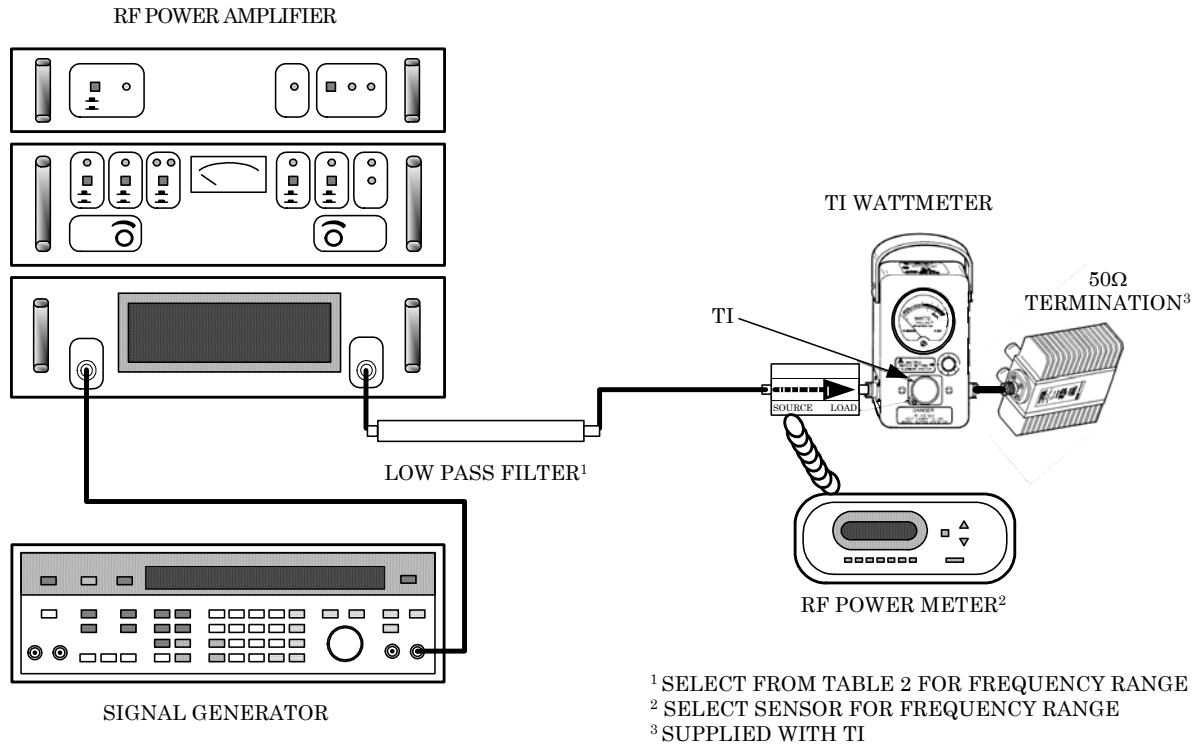

Figure 2. Plug-in element calibration - equipment setup.
- (1) Connect equipment as shown in figure 2.
- (2) Insert plug-in element into wattmeter and rotate it until the arrow points in the direction of 50  $\Omega$  termination.
- (3) Set factor switch to 1 position and allow equipment to warm-up for 5 minutes.
- (4) Adjust RF power generator frequency controls for a frequency counter indication of 1000 MHz.
- (5) Adjust RF power generator amplitude controls for a TI wattmeter indication of 8 W. RF power meter will indicate between 7.5 and 8.5 W.
- (6) Repeat (4) and (5) above for 750, 400, and 200 MHz.
- (7) Remove TI from wattmeter.
- (2) Insert TI into wattmeter and rotate TI until the arrow points in the direction of 50 Ω termination.
- (4) Adjust RF power generator frequency controls for a frequency counter indication of 200 MHz.
(1) Connect equipment as shown in figure 2.
(2) Insert TI into wattmeter and rotate TI until the arrow points in the direction of 50  $\Omega$  termination.
(3) Set factor switch to **1** position and allow equipment to warm-up for 5 minutes.
(4) Adjust RF power generator frequency controls for a frequency counter indication of 80 MHz.
(5) Adjust RF power generator amplitude controls for an RF power meter indication of 8 W. TI will indicate between 7.5 and 8.5 W.
(6) Repeat (4) and (5) above for 60 and 25 MHz.
(7) Remove TI from wattmeter.
(3) Set factor switch to **0.1** position and allow equipment to warm-up for 5 minutes.
(4) Adjust RF power generator frequency controls for a frequency counter indication of 30 MHz.
(5) Adjust power generator amplitude controls for a TI indication of 8.0 W. Power meter will indicate between 7.5 and 8.5 W.
(6) Set factor switch to **1** position and allow equipment to warm-up for 5 minutes.
(7) Adjust signal generator frequency controls to 10 MHz and amplitude controls for an 80 W indication on TI wattmeter. RF power meter will indicate between 75 and 85 W.
(8) Adjust signal generator frequency controls to 2 MHz and amplitude controls for an 80 W indication on TI wattmeter. RF power meter will indicate between 75 and 85 W.
(4) Adjust signal generator frequency controls to 2.5 MHz.
(5) Adjust signal generator amplitude controls for a TI wattmeter indication of 80 W. RF power meter will indicate between 75 and 85 W.
(6) Adjust signal generator frequency controls to 1.0 MHz and amplitude controls for an 80 W indication on TI wattmeter. RF power meter will indicate between 75 and 85 W.
(7) Adjust signal generator frequency controls to 450 kHz and amplitude controls for an 80 W indication on TI wattmeter. RF power meter will indicate between 75 and 85 W.